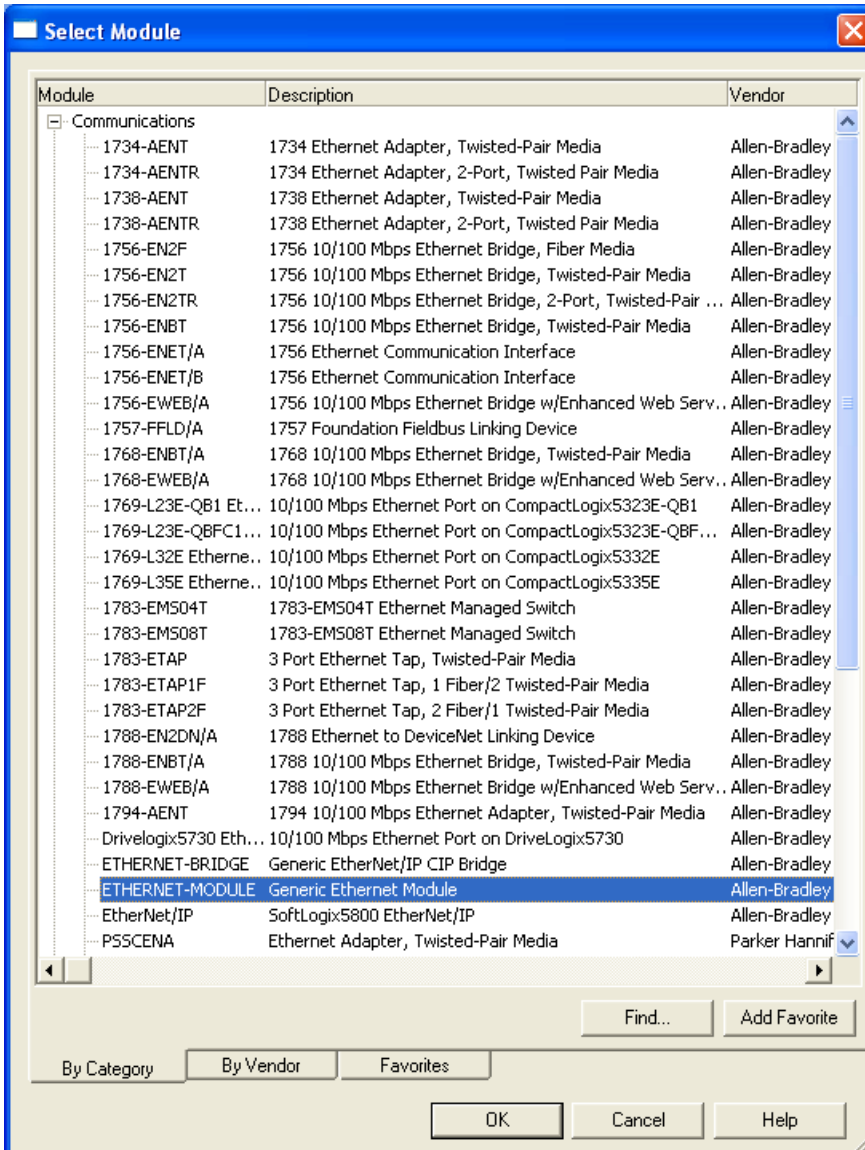

Figure 5-2: Selecting Module Type
3. Select “ETHERNET-MODULE” under “Communications” and click OK (Figure 5-2: Selecting Module Type)